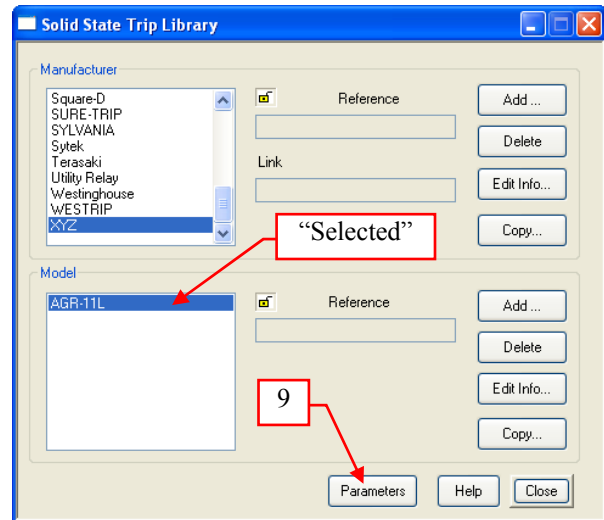

Fig. 5
9. With the “AGR-11L” selected in the “Model” frame of the “Solid State Trip Library” dialog window, click the “Parameters” button. See Fig. 5. The “Solid State Library: Parameters” dialog window will be displayed.